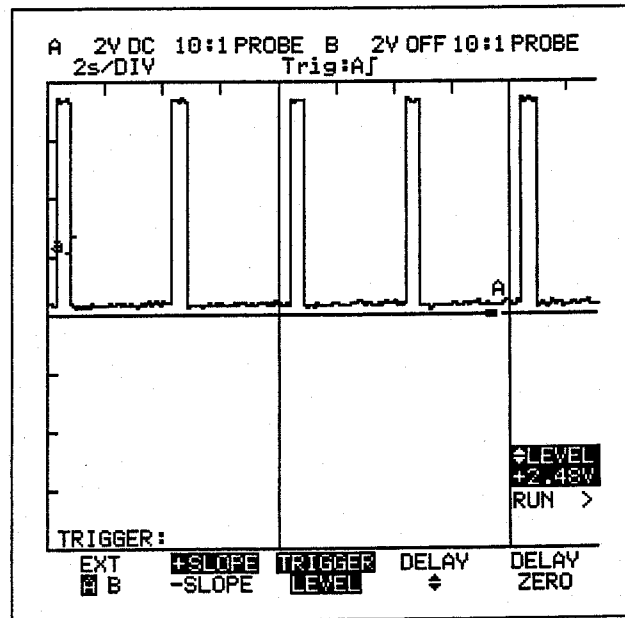

Figure 6.15
- Press **TIME** twice to reduce the time base to 2 sec/DIV. (Figure 6-15).
The signal is a 0.5s pulse, which occurs every 4 seconds. Note that in Figure 6-15 you see the RUN in the lower Right Display followed by ">", indicating that ScopeMeter is running and storing the data in the memory area to the right of the displayed screen. This can give the impression of a slow update rate. To increase the update rate:
Repeat application "Trigger Mode and Display" on page 6-16 until you have the same display as in Figure 6-15. You will make single shot measurements to examine the leading and trailing edges of a pulse. To make a Single shot measurement you must ensure the correct trigger level is set, and to see more detail you will need to increase the sweep speed.